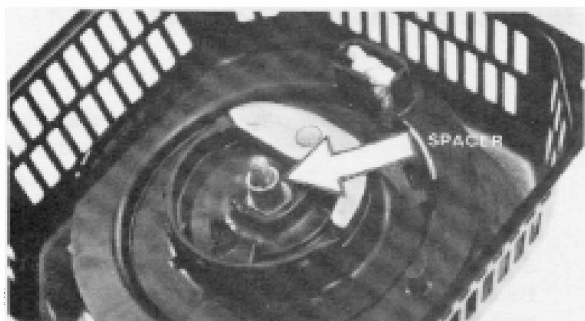

Figure 3-33
5. Remove the shaft spacer. See. Fig. 3-33.